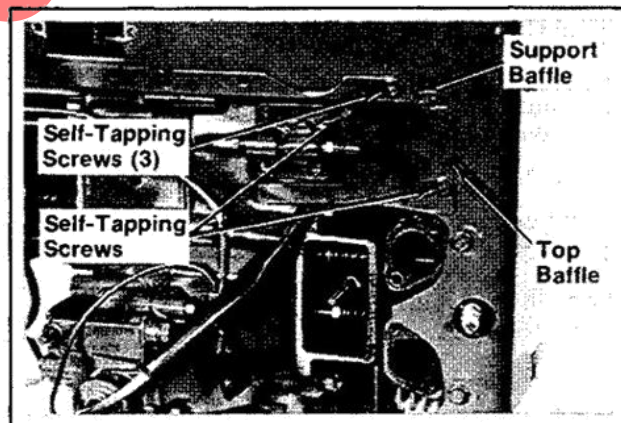

Figure 9-13. Removing Top Baffle And Support Baffle.
1. Remove the self-tapping screws, top baffle, and support baffle. Refer to Figure 9-13.